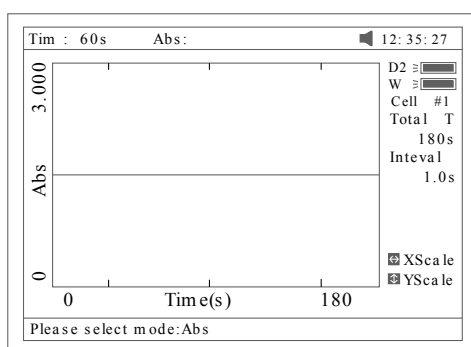

Fig 55
2. Select the test mode (“Abs” or “%T”) by pressing [F2] (Fig 55).